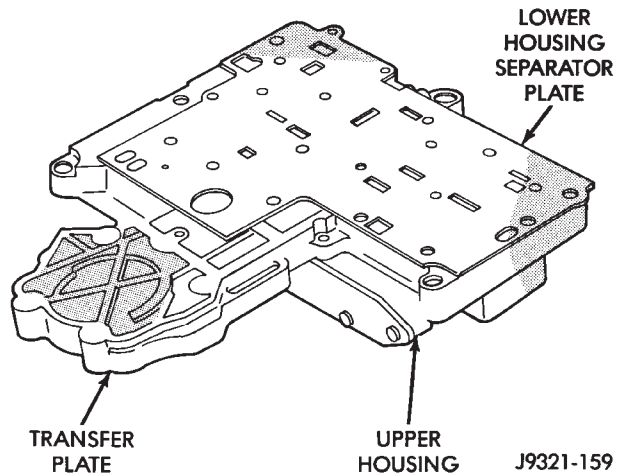

Fig. 119 Lower Housing Separator Plate Installation—46RH
- (2) Position transfer plate assembly on upper housing (Fig. 119).
- (3) Position lower housing separator plate on transfer plate (Fig. 119).